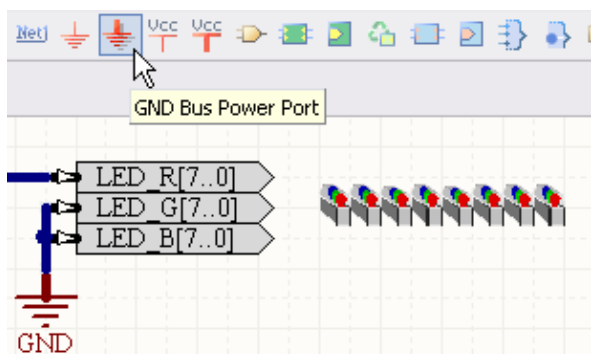

Figure 9. Connect the unused pins to ground.
31. Connect the unused green and blue pins on the LEDS\_RGB port plugin component to ground by placing a bus style ground port (as shown in Figure 9), and connecting it to the green and blue pins with a bus.